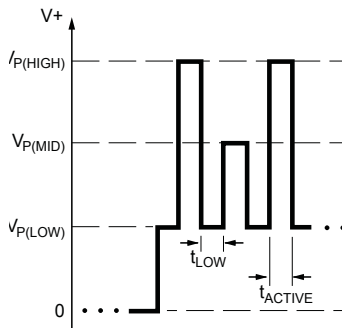

Figure 2. Parameter selection pulse train. This shows the sequence for selecting the register corresponding to key 1, indicated by a single VPM pulse.
Each mode and programmable parameter can be accessed through a specific register. To select a register, a sequence of voltage pulses consisting of a VPH pulse, a series of VPM pulses, and a VPH pulse (with no VCC supply interruptions) must be applied serially to the VCC pin. The number of VPM pulses is called the *key*, and uniquely identifies each register. The pulse train used for selection of the first register, key 1, is shown in figure 2.